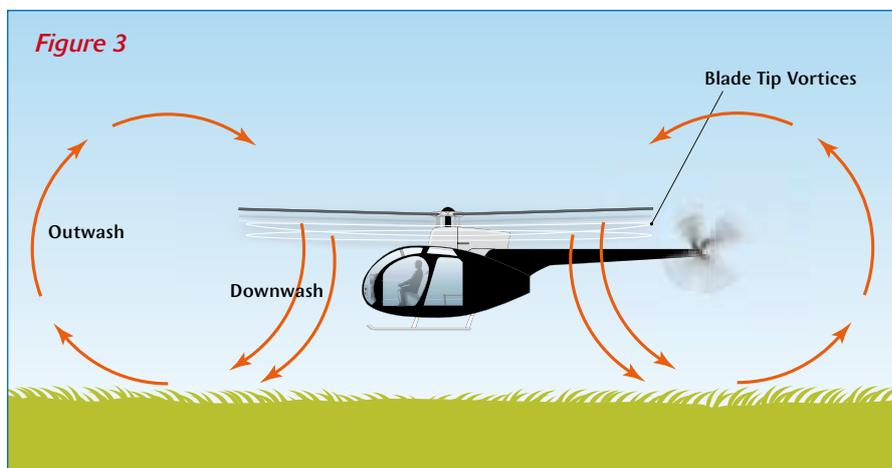

Figure 3
- During a stationary hover, or a slow hover-taxi, a helicopter generates considerable downwash – high velocity outwash vortices that extend to a distance three times the diameter of the rotor (Figure 3). The outwash vortices circulate outward, upward, around, and away from the main rotor (or main rotors) in all directions. It is recommended that pilots should not operate small aircraft within three rotor diameters of a helicopter in a stationary hover or a slow hover-taxi.